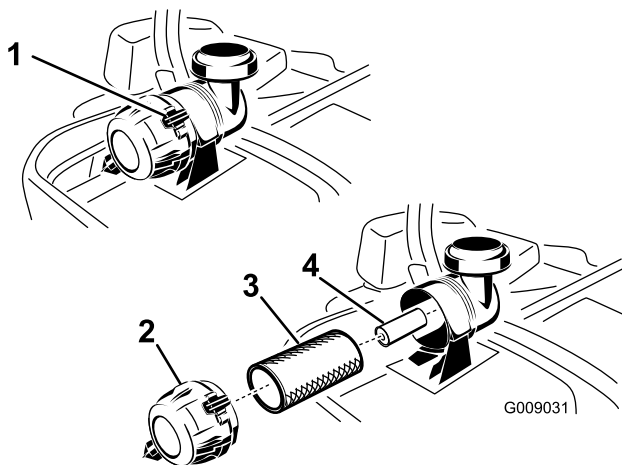

Figure 47
3. Push down to release the retaining clamps on the air cleaner, and pull the air-cleaner cover off the air-cleaner body (Figure 47).
5. Gently slide the primary filter out of the air-cleaner body (Figure 47). Avoid knocking the filter into the side of the body.
1. Do not clean the paper filter, replace it (Figure 47).
2. If the secondary filter is being replaced, carefully slide it into the filter body (Figure 47).
3. Carefully slide the primary filter over the secondary filter (Figure 47).